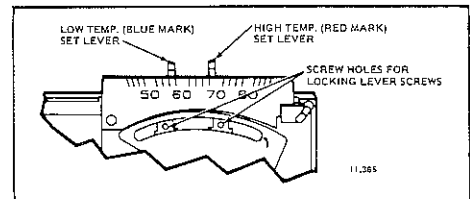

Fig. 10—Temperature control levers.
- The two levers on top of thermostat control the low and high temperatures for energy savings and comfort control (Fig. 10). The lever on the left (blue mark) controls the lower temperature. The lever on the right (red mark) controls the higher temperature.